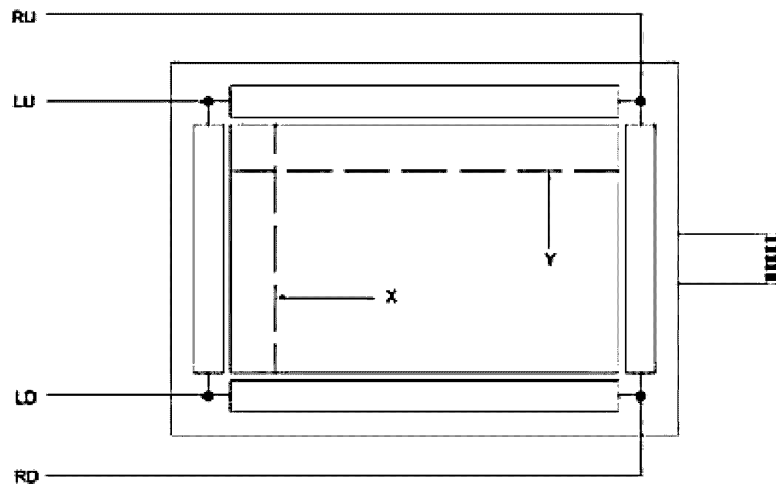

Figure 1
(1) Supply Voltage	DC 5V
(2) Circuit Resistance	X:200~900 ohm, Y200~900 ohm (See Figure 1)
(3) Linearity	$X \leq 1.5\%$ , $Y \leq 1.5\%$
(4) Response	$\leq 10\text{ms}$
(5) Insulation	$\geq 20\text{Mohm}/25\text{V}(\text{DC})$
(6) Endurance	No acting damage at DC50V/60sec.